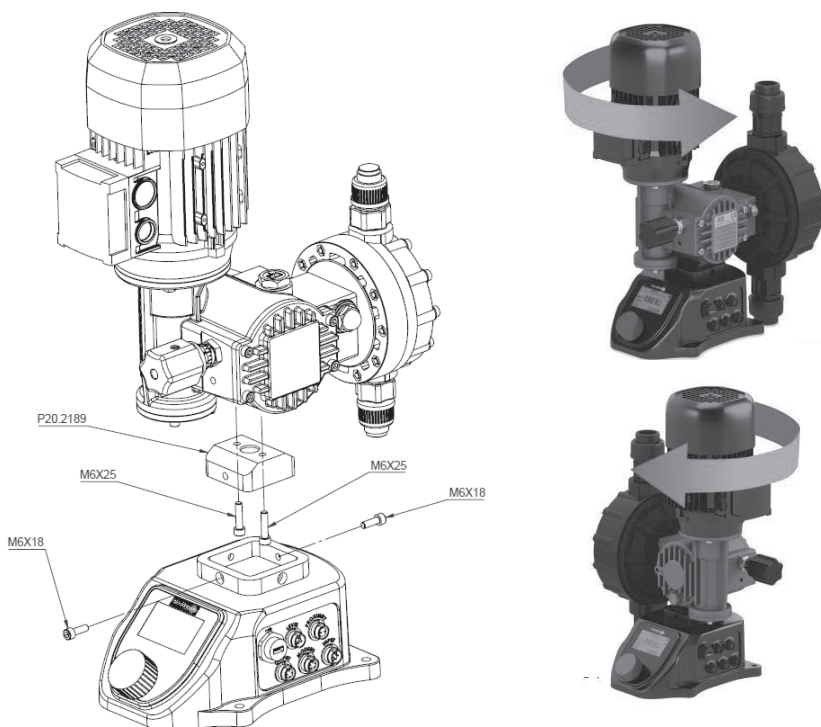

Figure 1 Installation of the KIT
The Black Line 2.0 M and R pumps can be installed on a KIT-PRO, as shown in Figure 1.
3. Disassemble the base of the Black Line pump (pos. 117 in the BL2.0 M and R section drawings)
4. Mount connection P20.2189 (Figure 1) using the M6x25 screws.
5. Fasten the KIT PRO to the connection (Figure 1) using the provided M6x18 screws.